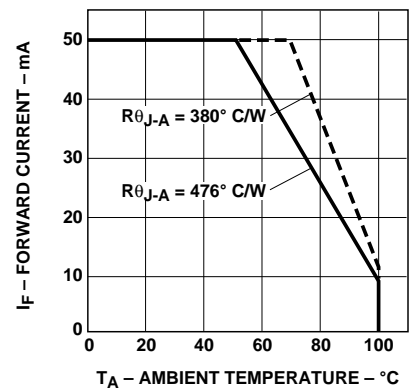

Figure 4. Maximum Forward Current vs. Ambient Temperature for HLMA-/HLMT-QL00/QH00/PL00/PH00. Derating Based on $T_{j\text{MAX}} = 110^\circ \text{C}$.
3. Derate linearly as shown in Figure 4.